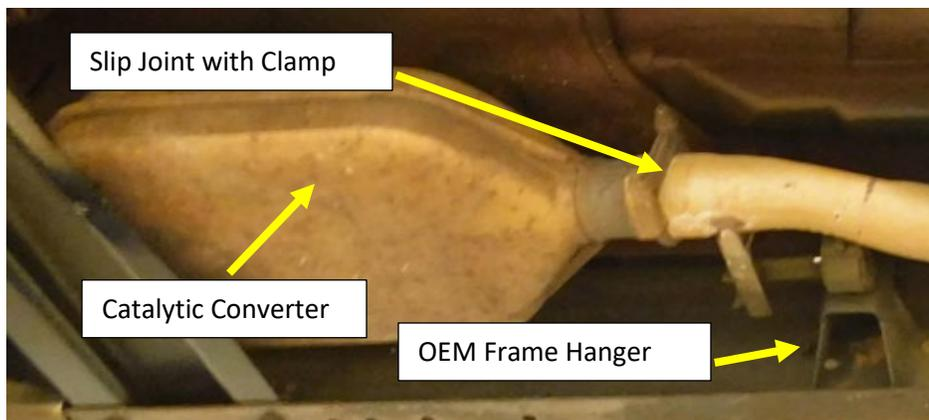

Figure.1
5. Remove the clamp from the slip joint at the catalytic converter. **Fig.1**
6. Remove the OEM frame hanger assembly at the catalytic converter. **Fig.1**